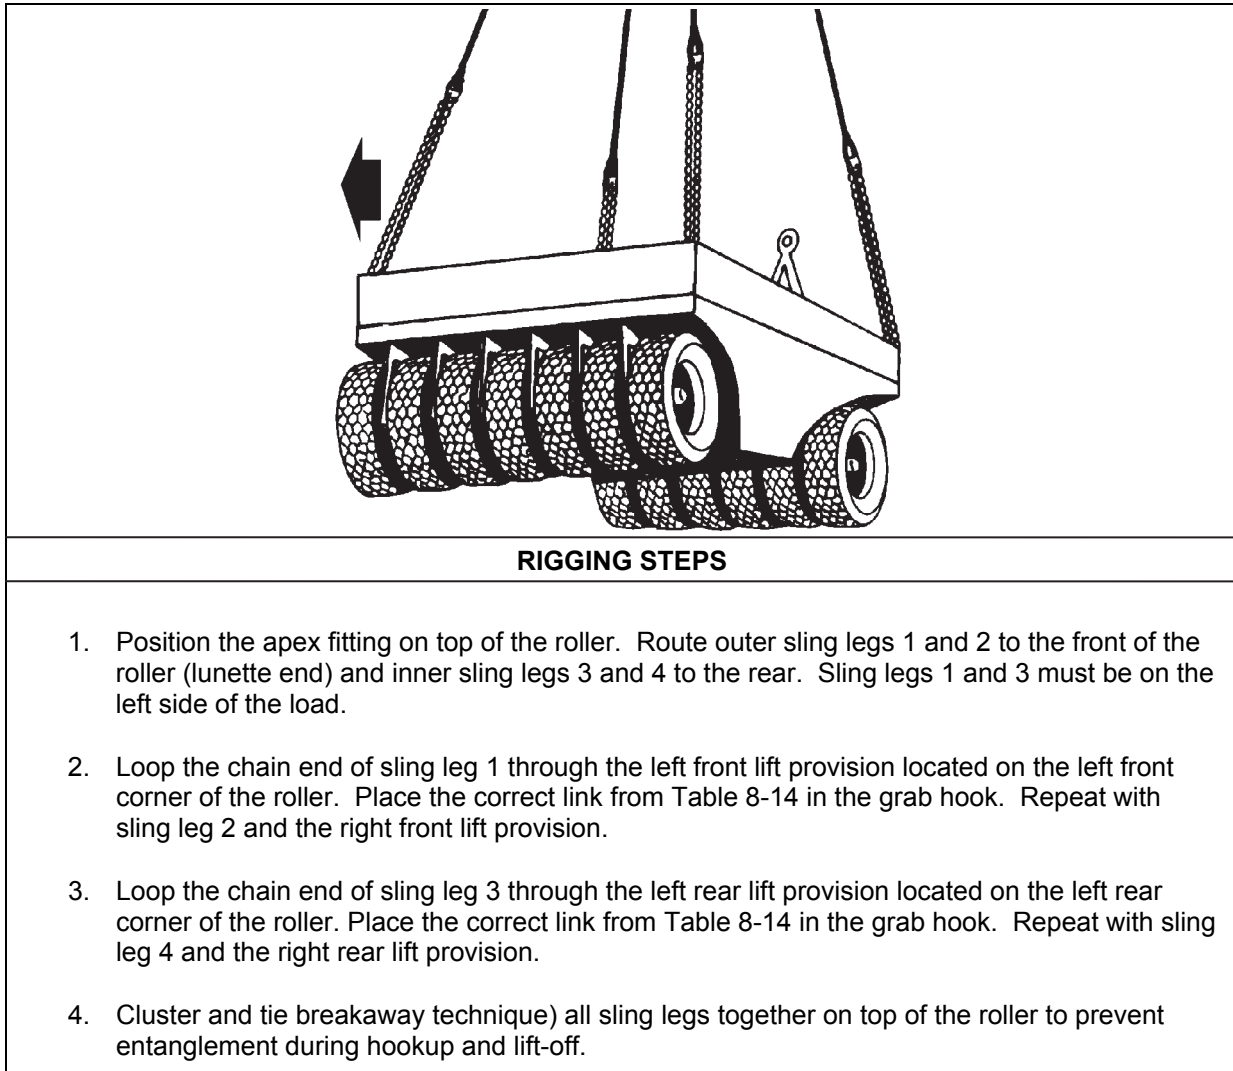

Figure 8-14. Towed Rollers
- **Rigging.** Rig the load according to the steps in Figure 8-14.